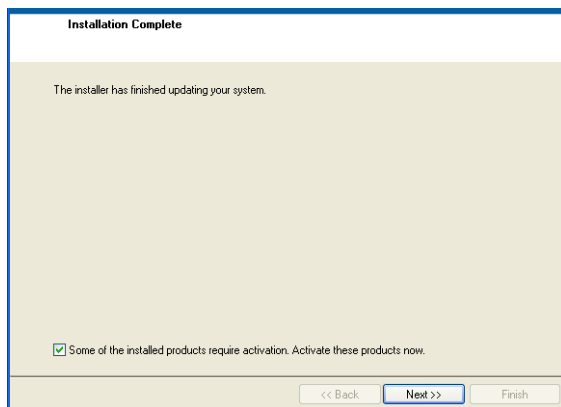

Figure 5. Installation complete
- 7) Click *NEXT* after the installation is complete to continue (**Figure 5**).